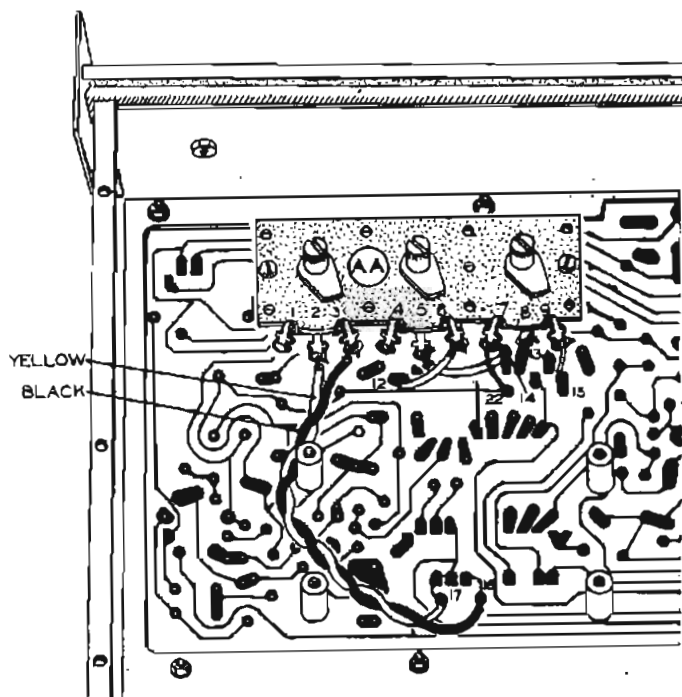

Figure 17
- () As shown in Figure 17, install a triple 250 KΩ control (#13-3) at AA, on the indicated pair of phenolic spacers. Use 3-48 screws.
- () Connect the wire from hole 22 to lug 7 (NS) of control AA.